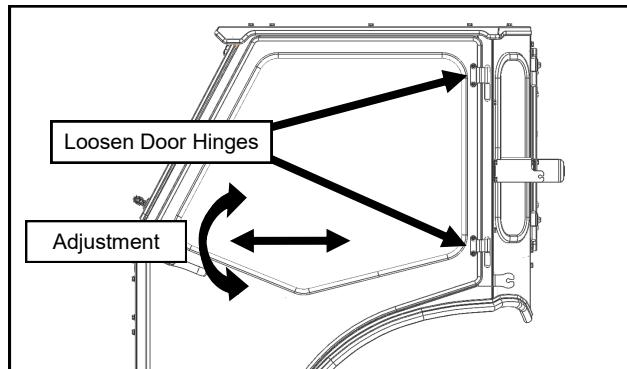

Fig. 18.3a (Door Hinge Adjustment)
- 18.3 Loosen the door hinges to allow for adjustment. While lifting up and forward on the door handle, line up the door latch with the striker pin and carefully attempt to latch. If the latch is too far forward or back to latch on the pin, adjust as shown, then retighten and latch. See figures 18.3a and b.